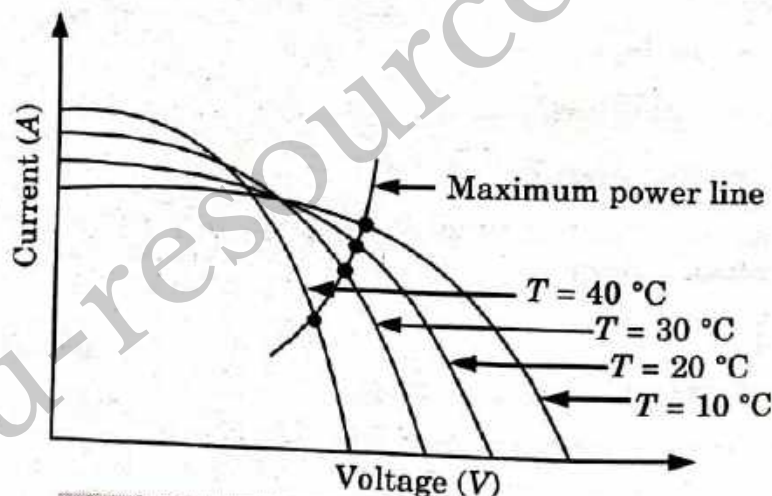

Fig. 3.20.1. *V-I* characteristics of a PV device.
A. V-I Characteristic of Photovoltaic (PV) Device :
1. The *V-I* characteristic of a PV device is a non-linear graph between current and voltage generated by PV module as shown in Fig. 3.20.1.